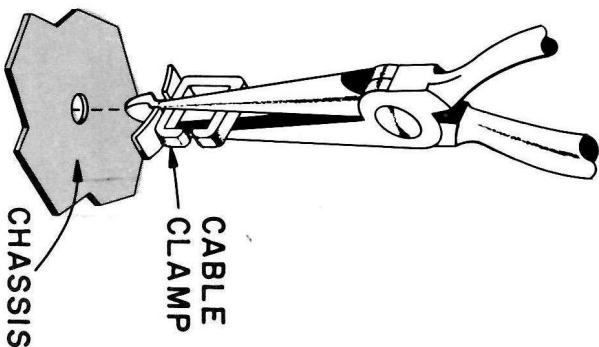

Figure 17
- Two nylon cable clamps. See Figure 17 and mount where shown.